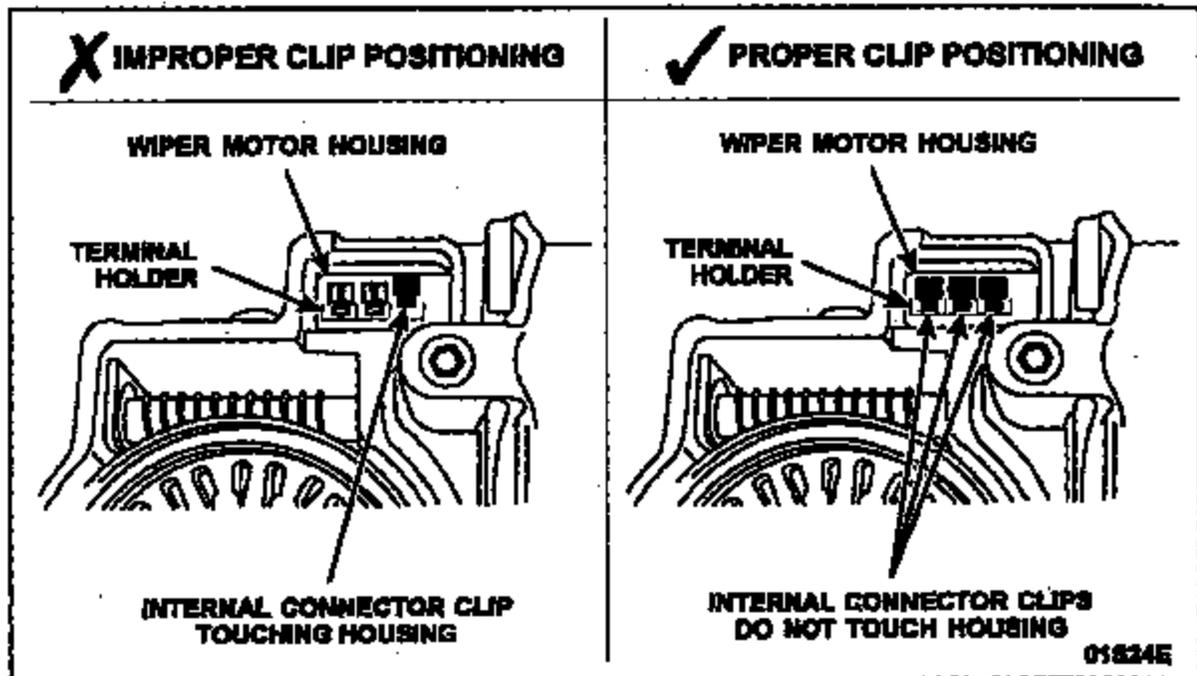

FIGURE 5
1. Inspect the three (3) internal electrical connector clips. All three clips **MUST** be aligned against the plastic terminal holder. If any of the clips are misaligned or touching the motor housing, they must be straightened and positioned as shown in the illustration. See Figure 5.